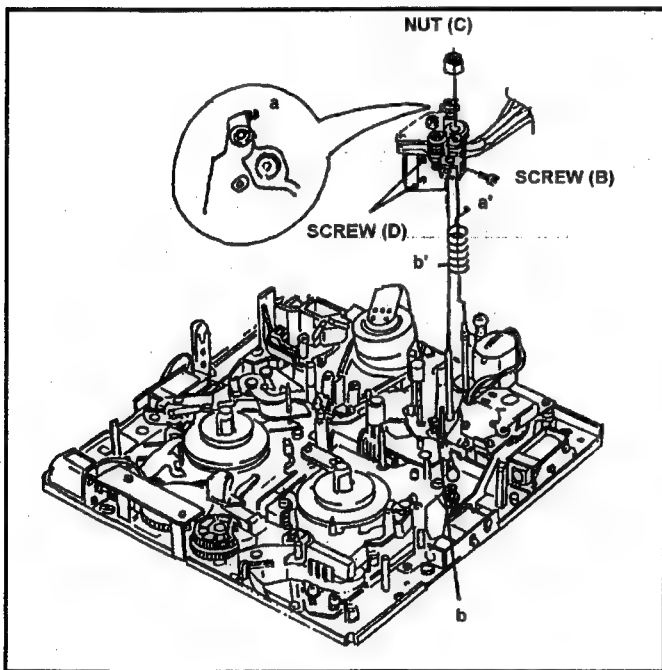

Fig. 6-2-3 Removal of A/C Head Unit
2. Loosen the hex screw (B) and remove the Nut (C). Hang off the Head Height Adjustment Spring and then remove the A/C Head Unit as shown in Figure 6-2-3.
3. Remove the 2 screws (A) and disconnect the connector P4502 on the AUDIO and P2030 on the Servo P.C.Board, then remove the A/C Head from the A/C Head Plate.
4. Remove the Shield Cover by removing 2 screws (D) as shown in Figure 6-2-3.